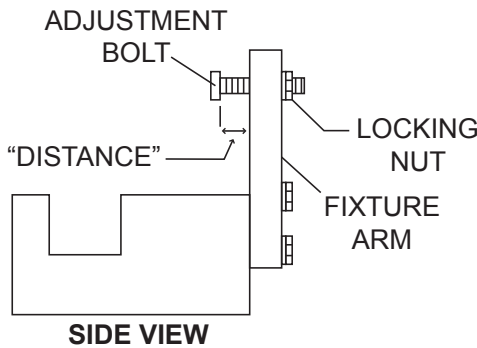

Figure 1. Adjustment Fixture
Shown in Figure 1 is the adjustment fixture. As each trowel arm is locked into the adjustment fixture, the trowel arm adjustment bolt is adjusted to where it contacts a stop on the adjustment fixture. This will consistently adjust all of the trowel arms, keeping the finisher as flat and evenly pitched as possible.
3. Loosen the locking nut on the adjustment fixture arm (Figure 1).
4. Using calipers, adjust the fixture adjustment bolt to the distance (Figure 1) for your particular trowel as specified in Table 1.